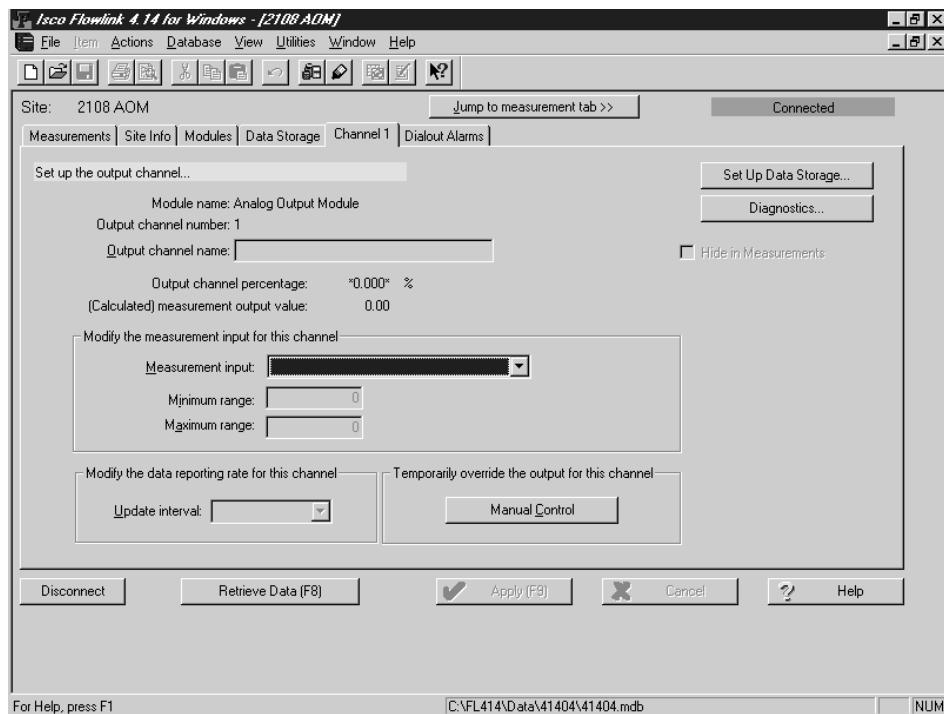

Figure 2-7 Channel 1 Setup Screen in Flowlinc
2. From the Measurements tab, select Channel 1. The screen shown in Figure 2-7 will be displayed.